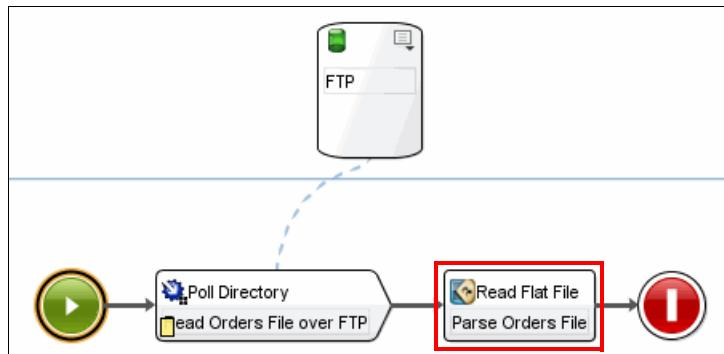

Figure 12-45 Read Flat File activity
1. From the Activities tab, select **Transform** → **Read Flat File**. Drag it to the right of the Poll Directory activity. Right-click the activity, and select **Rename** to rename it to `Parse Orders File`. Refer to Figure 12-45.